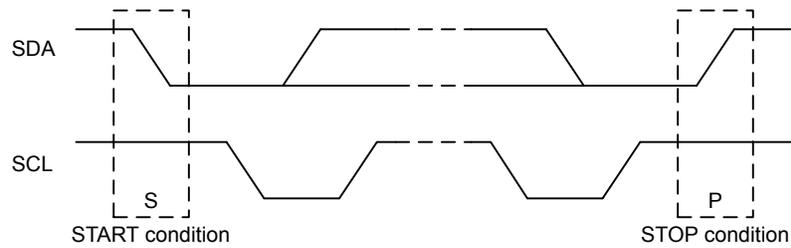

Figure 21.4. I²C START and STOP Conditions
START and STOP conditions are used to initiate and stop transactions on the I²C-bus. All transactions on the bus begin with a START condition (S) and end with a STOP condition (P). As shown in Figure 21.4 I²C START and STOP Conditions on page 561, a START condition is generated by pulling the SDA line low while SCL is high, and a STOP condition is generated by pulling the SDA line high while SCL is high.